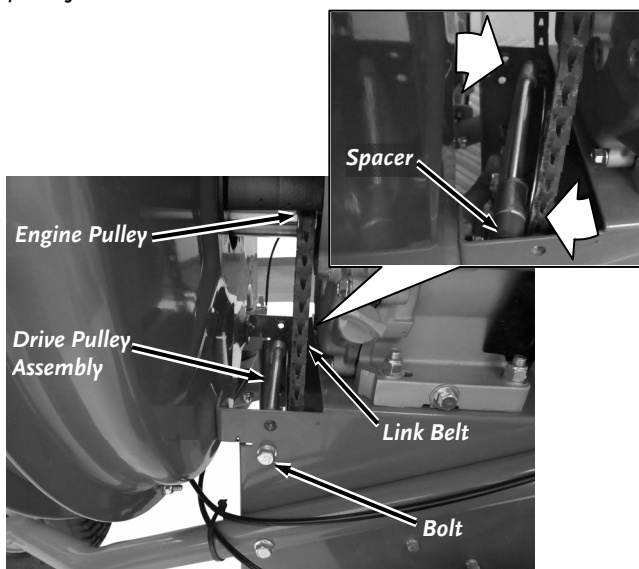

Figure 21
4. Remove the two Bolts that secure the Drive Pulley Assembly using a 13mm Wrench (**Figure 21**).
8. Cut the old Belt to be replaced using Diagonal Cutters or equivalent and remove Belt from upper Engine Pulley (**Figure 21**).
4. Install the Drive Pulley Assembly to the frame with the two Bolts (Ensure the Spacer is in place) (**Figure 21**).